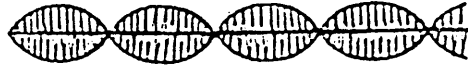

Figure 5-5. Sideband generator, two-tone waveform.
(k) Adjust R28 and C52 until two-tone waveform is symmetrical, with sharp, clear crossover, as viewed on the scope. (See fig. 5-5.)
- (u) Adjust R54 and C53 until two-tone waveform is symmetrical, with sharp, clear crossover, as viewed on scope (fig. 5-5).